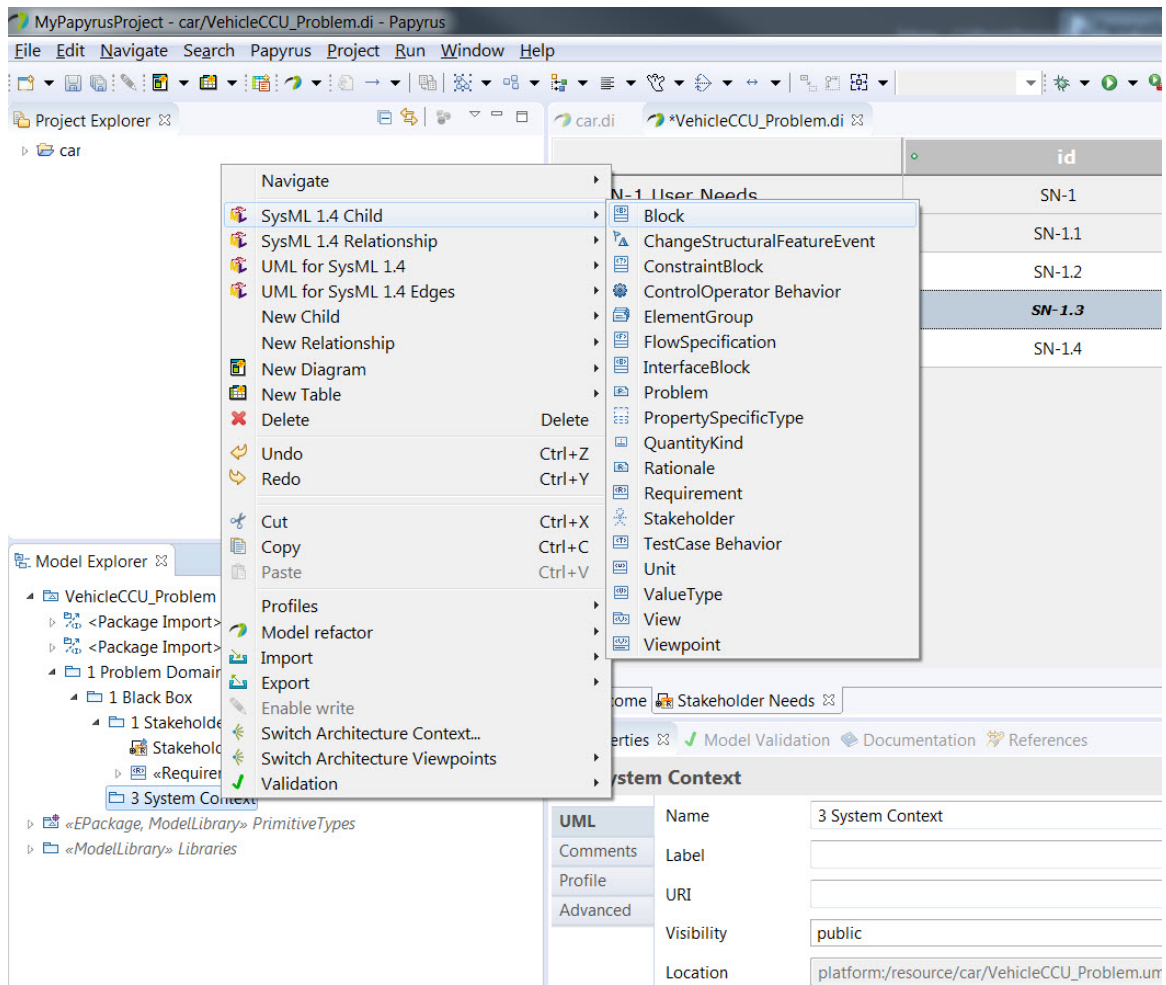
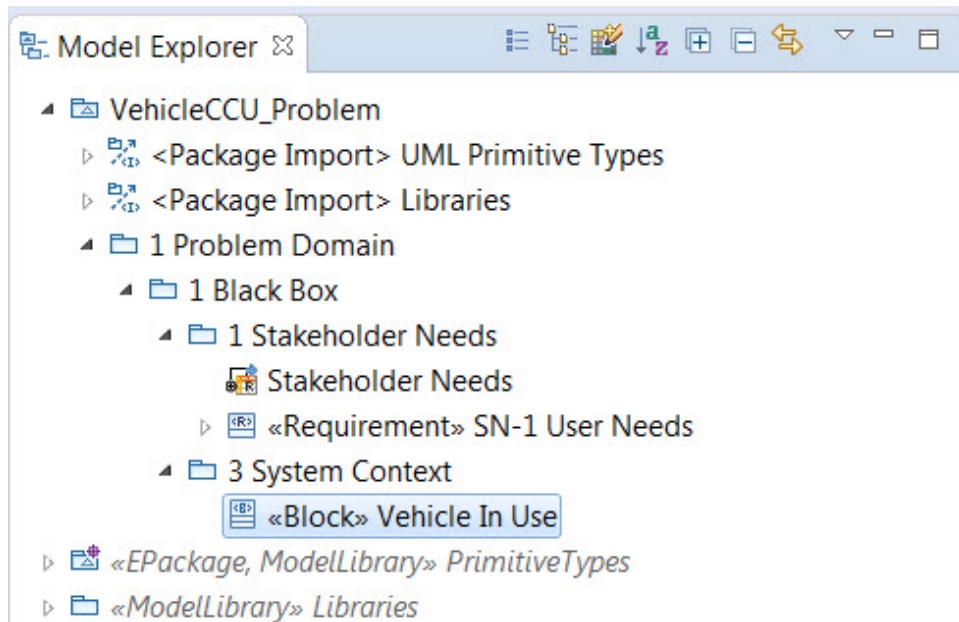

Figure 17: Create New Block
Figure 18: Vehicle In Use Block
2. Now we will create a block that captures the vehicle in use system context. Right-click on the 3 *System Context* package just created and select **SysML 1.4 Child** and then **Block** (figure 17). Name the block *Vehicle In Use*. Your model explorer should now look like figure 18.